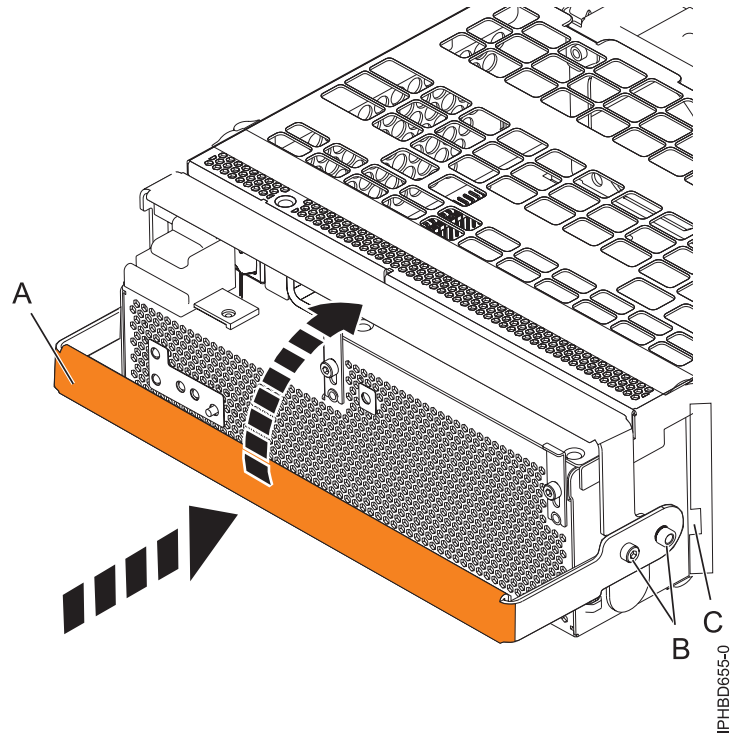

Figure 79. Replacing a power supply
11. To replace the power supply, with the locking handle (A) in the open position, push the power supply into the expansion unit as shown in Figure 79 on page 107.
12. Close the locking handle (A) until the power supply locks into position.